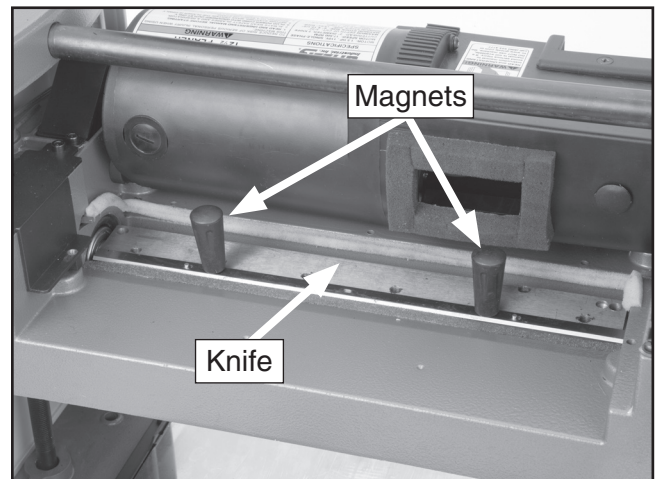

Figure 21. Knife removal.
5. Use the included magnets, as shown in **Figure 21**, to first remove the gib, then the knife.